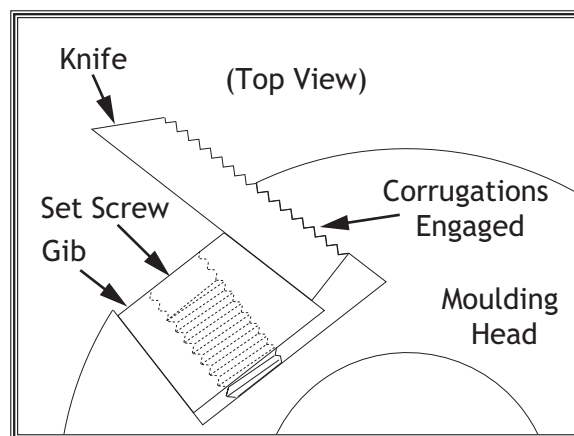

Figure 3. Moulding head corrugations engaged.
2. While holding gib in moulding head, slide knife corrugations into moulding head corrugations and center knives on moulding head body. Make sure all corrugations are engaged (see Figure 3).